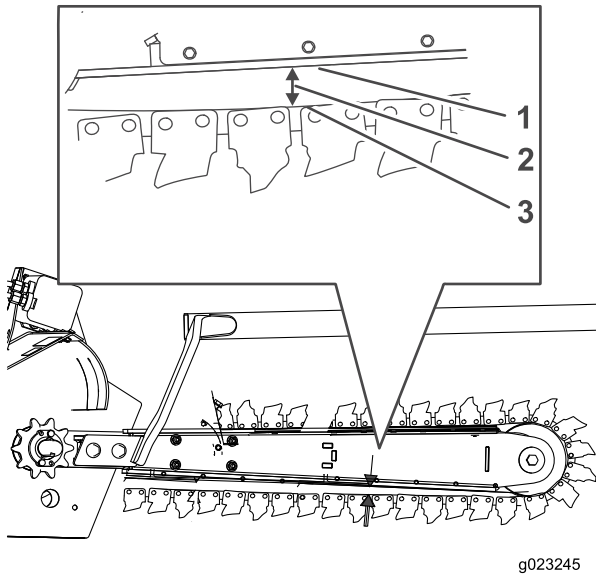

Figure 44
5. Measure the distance between the chain and the bottom of the lower wear strip (Figure 44).
- If the gap between the lower wear strip and the chain is 25 to 38 mm (1 to 1-1/2 inch), the chain tension is correct (Figure 44).